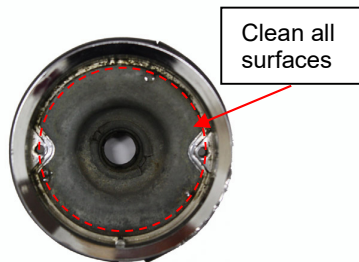

Figure 1
2. Clean the inner surfaces of the taillight housings. (See Figure 1) Note: These surfaces must be clean and dry to assure the best adhesion of the mounting tape that will hold the LED panels in position.